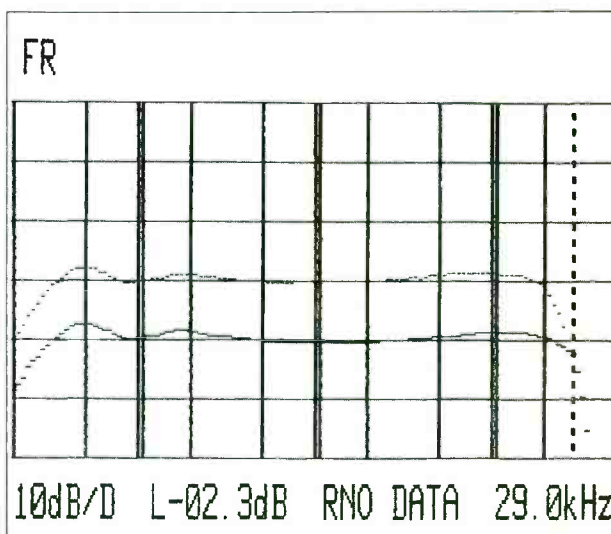
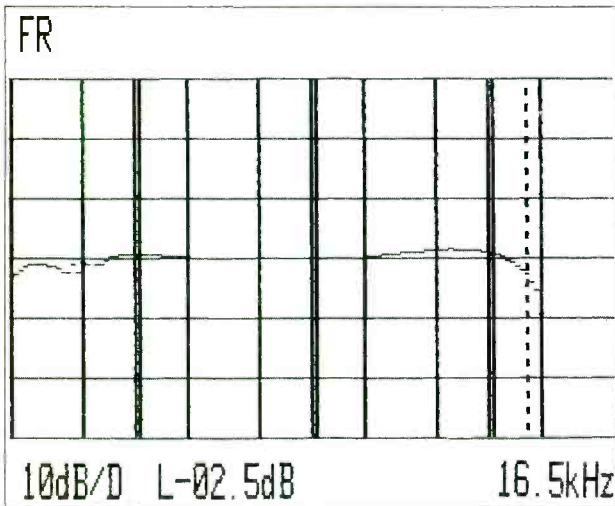

Fig. 1: Akai GX-625: Frequency response at 0 dB (upper trace) and -10 dB record level, $7\frac{1}{2}$ ips.
Fig. 2: Akai GX-625: Frequency response at -20 dB, 3 1/4 ips.
Regarding the graphic presentation of our test data, a detailed explanation is given in Leonard Feldman's "Ambient Sound" column elsewhere in this issue of *MR&M*. To relate that discussion to the data shown here, however, consider the data shown in *Figs. 1* through *8*.
Fig. 1 shows record/play frequency response at two different record levels (0 dB and -10 dB) for the 7 1/2 ips speed. The upper trace is the 0 dB response. The lower curve is for -10 dB, and is the one used to establish the -3 dB points listed in the "Vital Statistics" chart. Note that the "cursor" (vertical dotted line) has been moved way out to 29 kHz in *Fig. 2*, and at that frequency the "L" curve (really the -10 dB curve) registers
-2.3 dB. The "L" and "R" notations, in this instance, do not have their usual meanings of left and right, but are used to designate the two curves taken on the same channel but at different reference levels. Note that at the slower 3¼ ips speed (Fig. 2), we had to move the cursor back down to 16.5 kHz, at which frequency the response was down 2.5 dB. The next available discrete frequency to which the cursor might have been moved was 17.5 kHz, at which frequency the response was down by far more than 3 dB. So, in our "Vital Statistics" we interpolated the -3 dB point as being at 17.0 kHz.